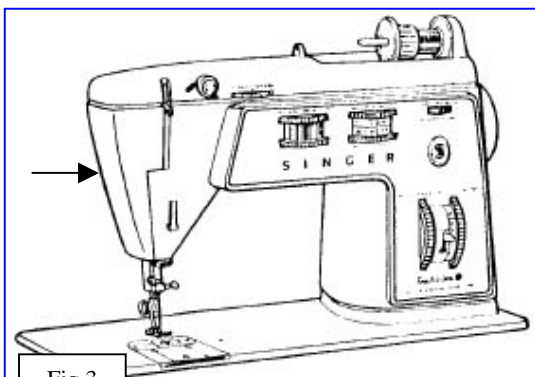

Fig 3
- 1. Open the side cover (face plate), fig 3, arrow
- 2. Depending on model, removing the arm top cover differs. Fig 3 depicts a machine with a solid arm top cover, while fig 4 depicts a machine with an arm top cover that may be opened to insert additional patterns. Depending on your model type, remove the arm top cover screw, shown in fig 3 & 4 bottom pictures, circled area
In figure 3 we have the unit laid out in the order of disassembly: *left to right*
5. Place the tension unit back in the arm top cover, with the check spring facing down, fig 3, and ensure you have the thread guide position properly as well. One of the thread guide tangs fits into the arm top cover, fig 3 arrow
4. Remove the screw shown in fig 3